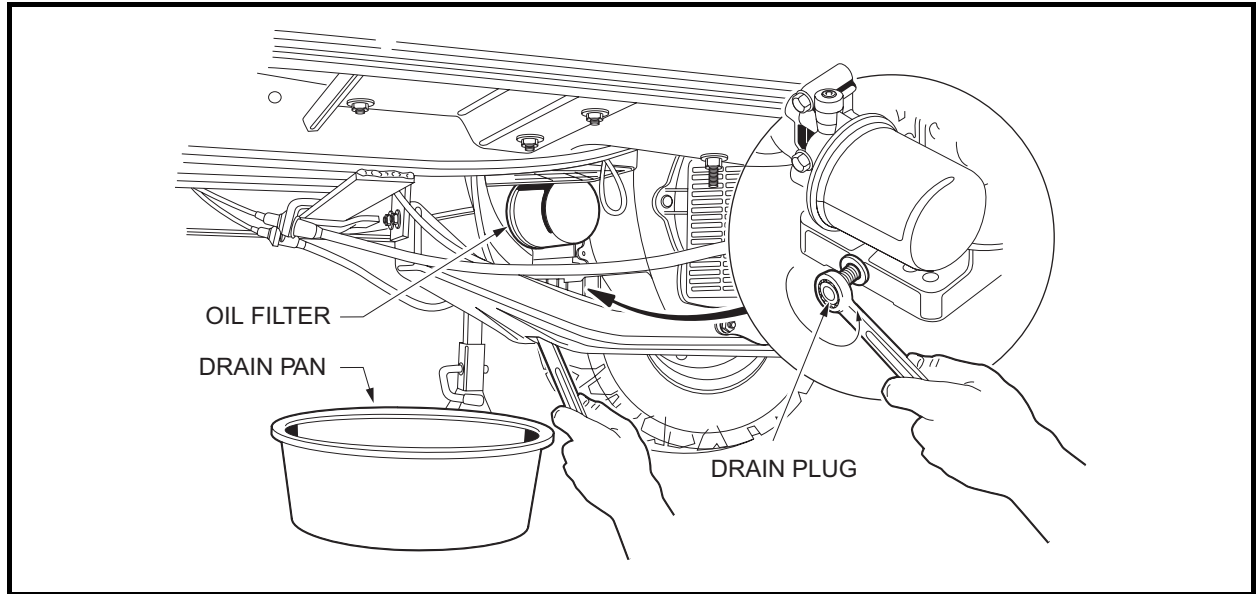

Figure 36 Engine Oil Drain Plug and Pan
4. Position a pan designed for oil changes under the front drain plug (**Figure 36**).
8. Relocate the oil drain pan to a position under the engine oil filter (**Figure 36**).